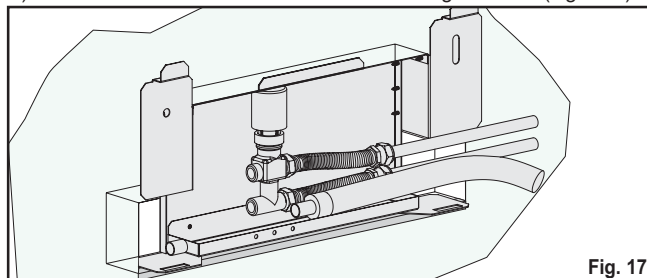

Fig. 17
- 3) Fix the condensate collecting tray by inserting two self-tapping screws into the relative holes (fig. 17). The external surface of the tray must be flush with the wall.
- 7) Connect the valve to the connecting hoses (fig. 17)